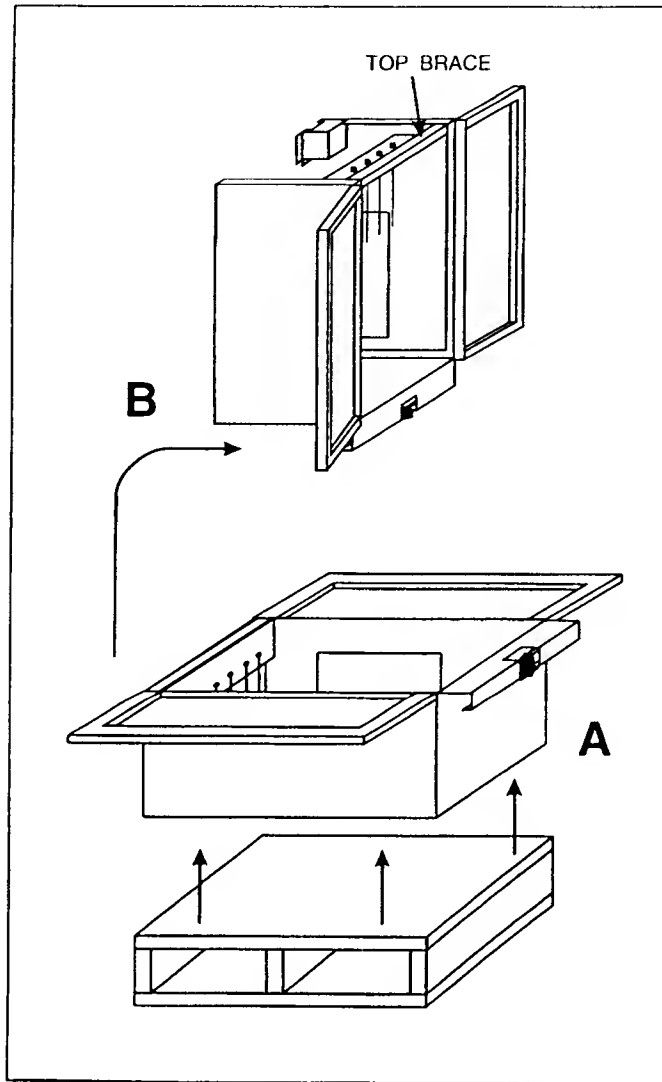

Figure 2-11. Stand up the Main Weldment Assembly. Step f.
- h. Stand up the Weldment by pulling it up by its top brace (figure 2-11).